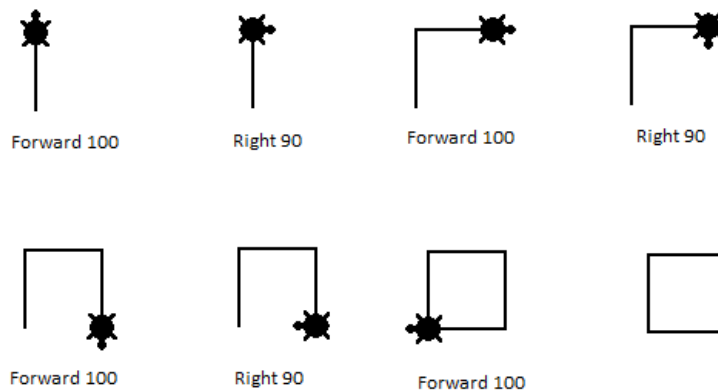

Figure 22-1: A square in Logo
FD is short for forward. The turtle is instructed to advance for 100 “units” and then make a right turn (RT) by 90 degrees. Then it is instructed to advance another 100 units and so on. The result? A square as shown in Figure 22-1.